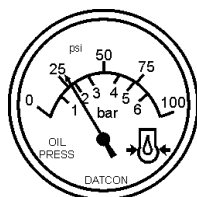

Figure 47. Oil Pressure Gauge
12. The engine oil pressure gauge (Figure 47) will indicate the oil pressure (kg/ cm²) of the engine. Under normal operating conditions the oil pressure is approximately 25 psi.